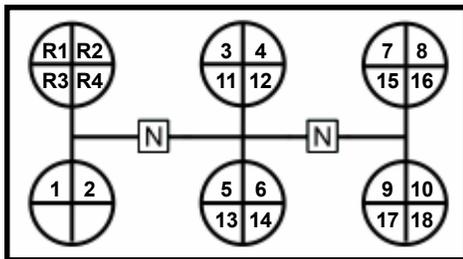

Fig. 1
4. Normal shift sequence is shown in the shift pattern (Figure 1). When the lever is moved, use normal double clutch techniques. When a shift is desired, depress the clutch pedal and move the lever to neutral. Engage the clutch, allowing the engine to